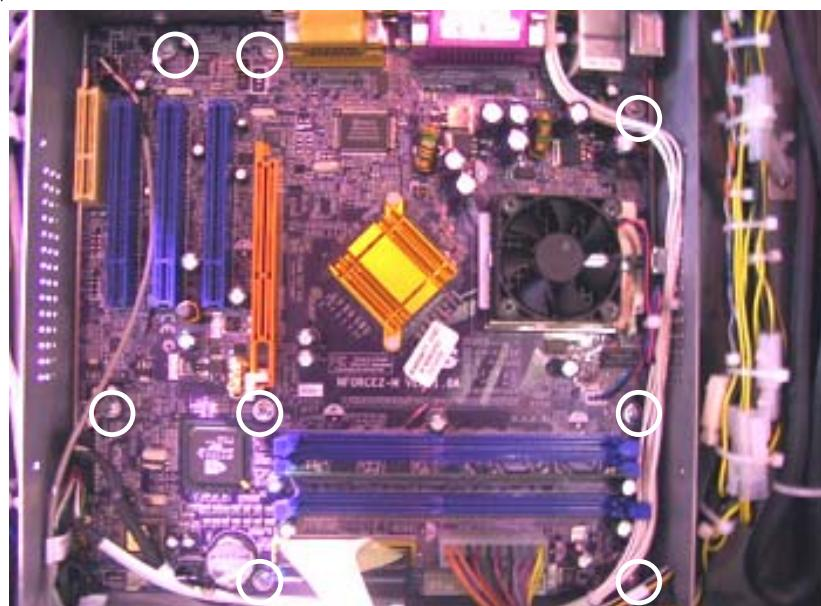

FIGURE 3 - SCREWS SECURING ECS MOTHERBOARD
9. Remove the 8 screws securing the motherboard to the electronics box. See Figure 3.
1. Set the motherboard in place within the electronics box, then secure the board with the 8 existing screws. See Figure 3.